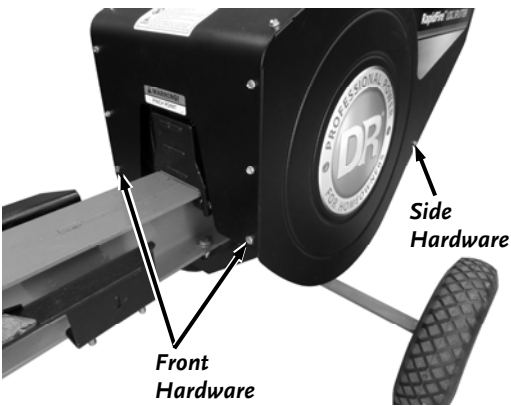

Figure 29
1. Remove one Bolt and Locknut on the left side of the Belt Guard with two 7/16" Wrenches (**Figure 29**).